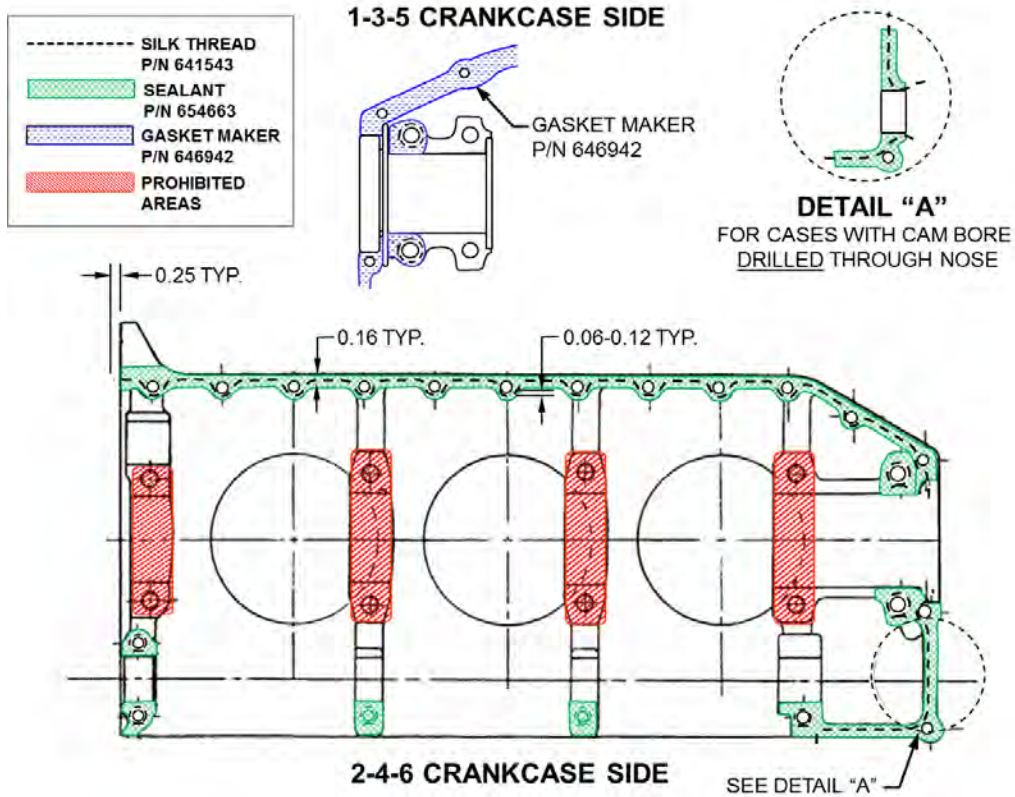

Figure 5. Threading Diagram, IO360, LTSIO360 Crankcase
4. Apply and position P/N 641543 (a continuous, single piece of grade "D" silk thread) on the 2-4-6 case half as specified (see Figures 5 through 8, pages 15-16). Ensure the free ends of your thread are covered by gaskets (except at the nose oil seal).